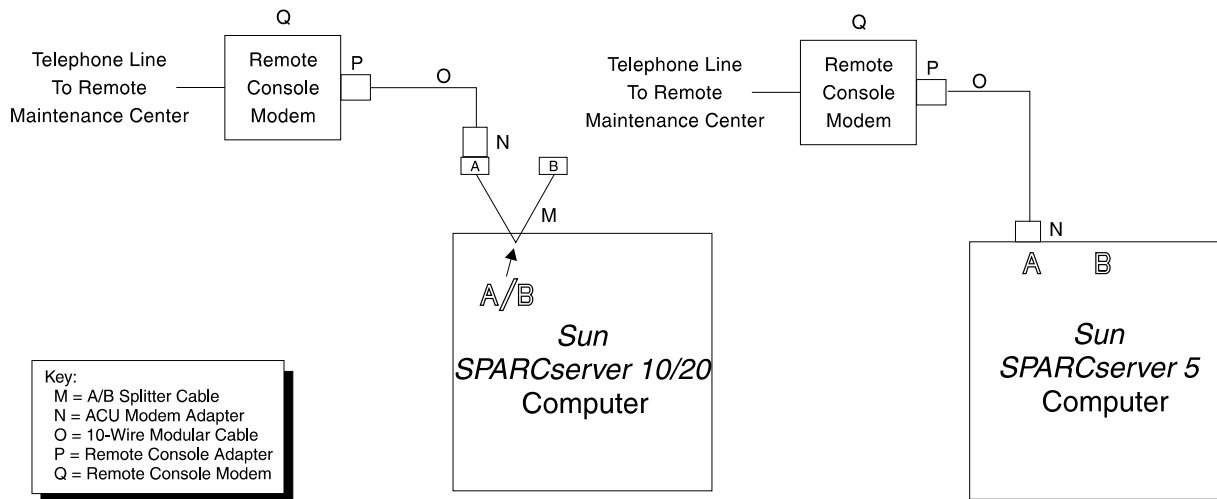

Figure 9-1: Remote Console Connectivity
- Check the port connectivity — see Figure 9-1. Refer to Chapter 3, "Installing the Sun SPARCserver Computer", and Appendix D, "Sun SPARCserver Computer Factory Installation Procedures", for details.
- Check modem setup — see Figure 9-1. Refer to Chapter 3, "Installing the Sun SPARCserver Computer" and Appendix D, "Sun SPARCserver Computer Factory Installation Procedures", for details.